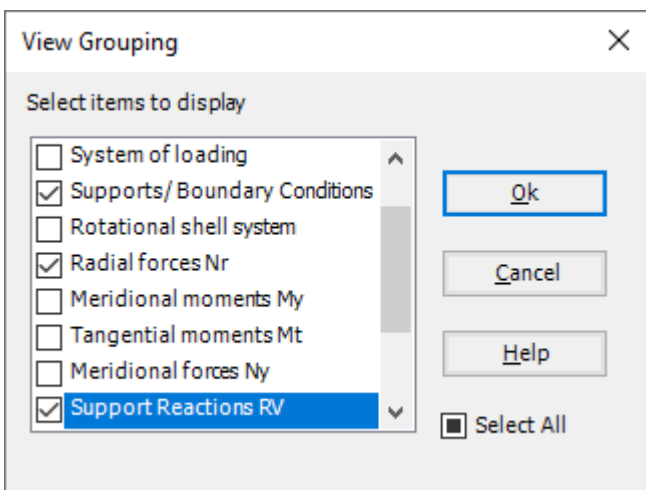

Figure 13.29 "View Grouping" check group box
- From "Options" menu in the "Graphic" tab, choose "View Grouping" command. The "View Grouping" check group box in Figure 13.29 appears